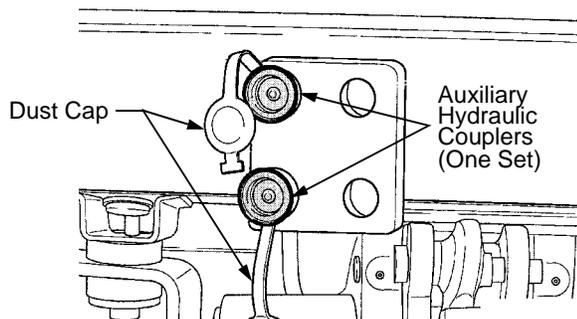

Figure 39
- Remove dust plugs or caps from the couplers. Refer to Figure 39.